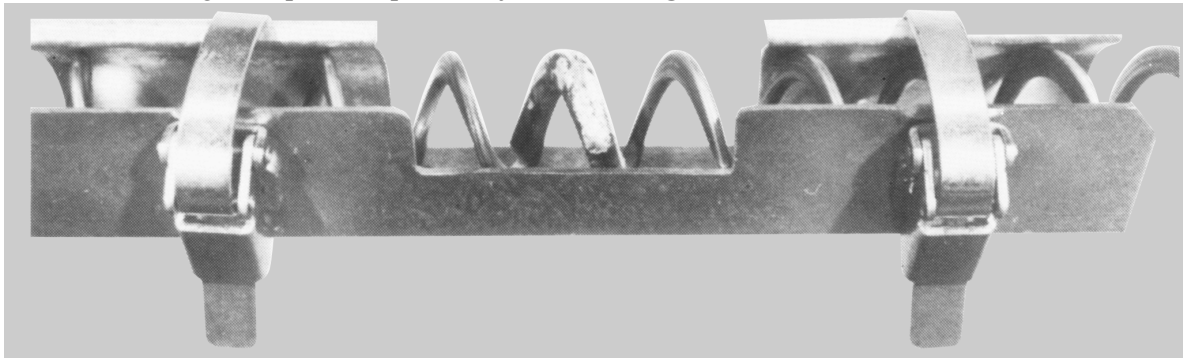

Figure 15. Clamping Auger in place using a Brazing Clamp.
2. Install the Brazing Clamp at the spot to be joined. See Figure 15.